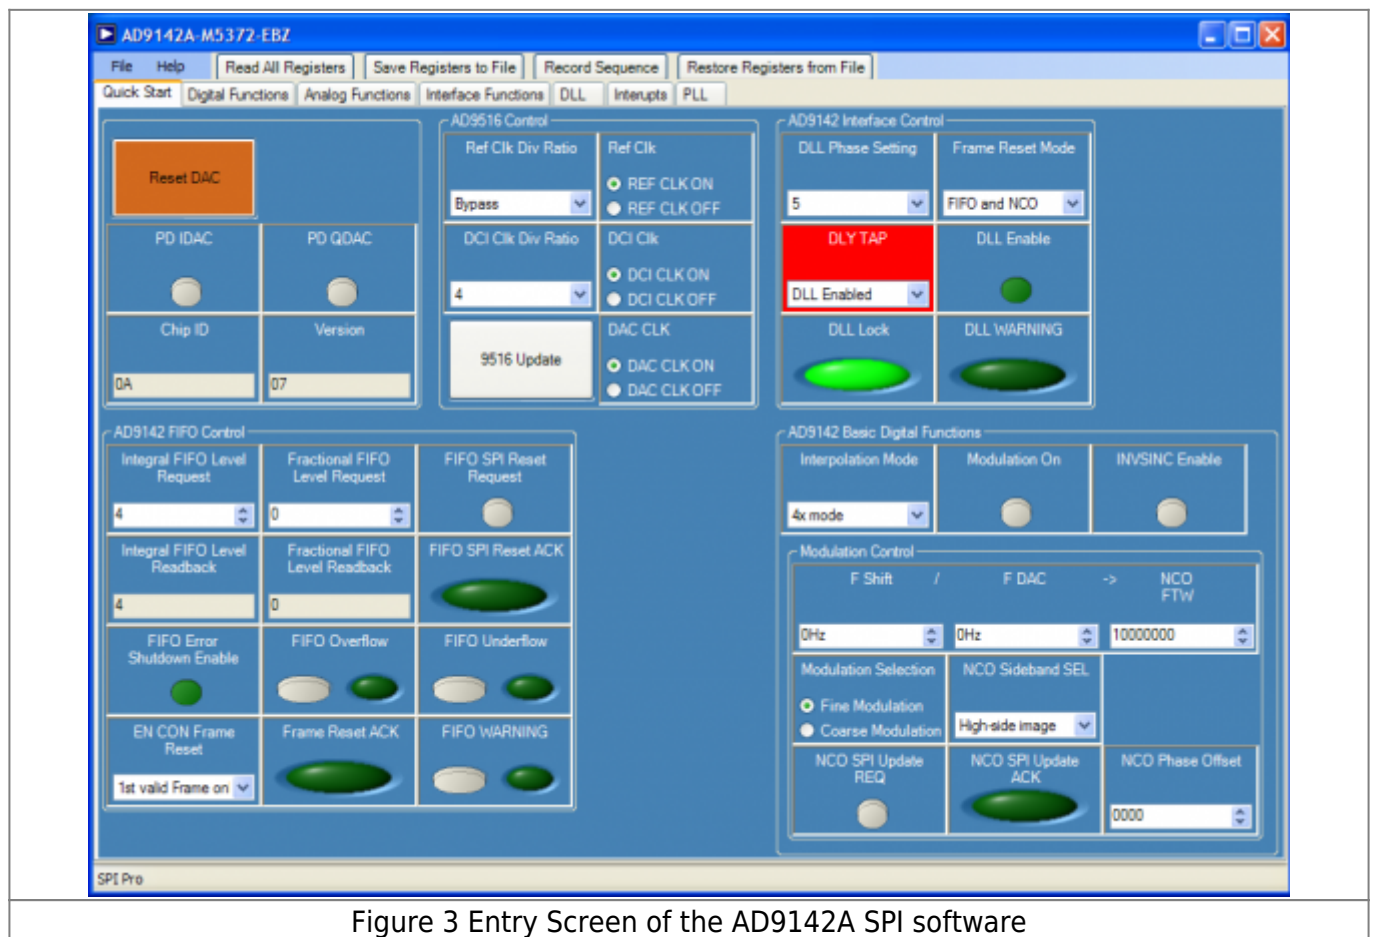

Figure 3 Entry Screen of the AD9142A SPI software
1. To begin, open the AD9142A SPI application (Start > All Programs > Analog Devices > SPIPro). The screen should look similar to Figure 3.